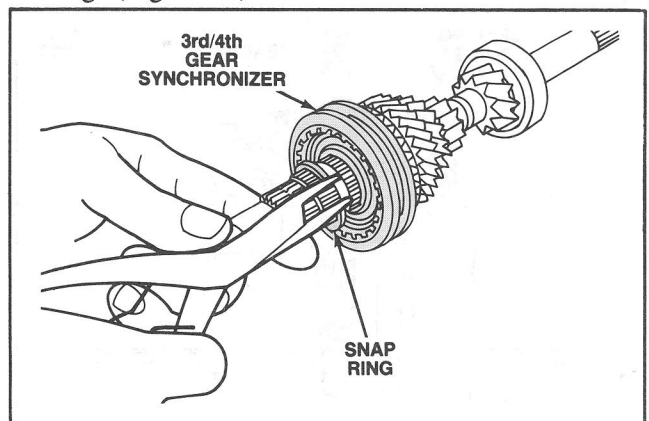

Figure 75 Snap Ring Removal
5. Remove the third/fourth gear synchronizer snap ring. (Figure 75).